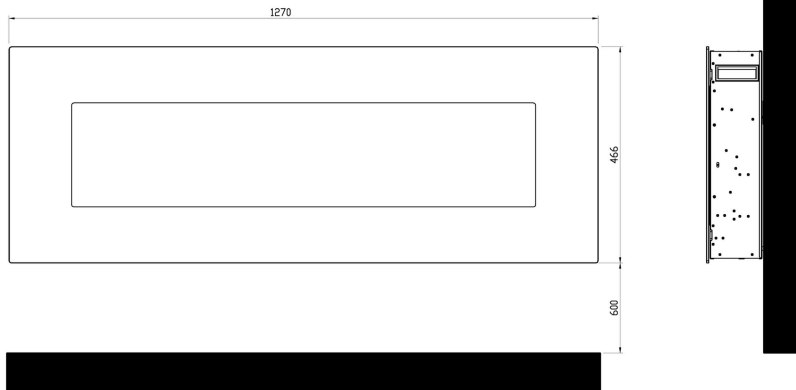
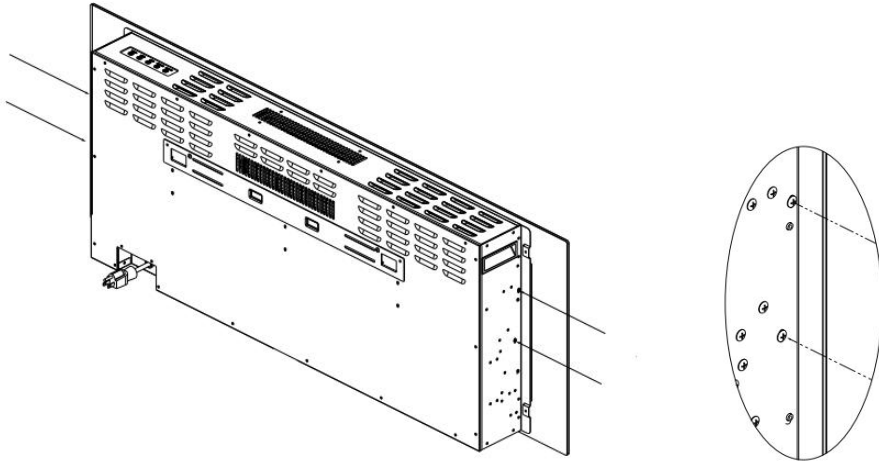

Fig.1
Fig.7
Installation (see Fig1 ~ Fig 7)
- A distance of 600mm from the bottom of the heater to the floor is recommended for optimum viewing of the fuel bed; see Fig.1 below for recommended fixing dimensions.
- Fix the tempered glass with 4pcs of white 4*8mm screws .(Fig.7)